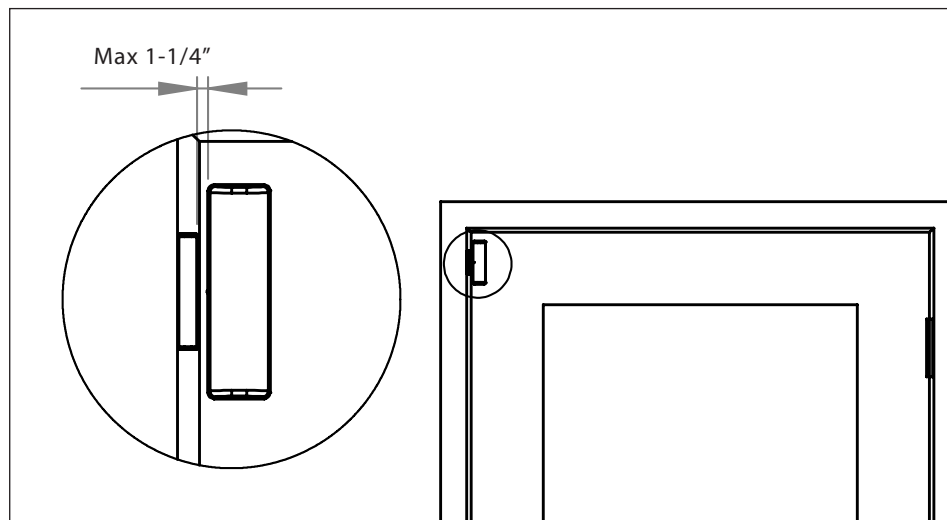

Figure 3 - Placing the Door/Window Sensor on the Door
- ✓ The Magnet Assembly and Sensor Assembly should be less than 1-1/4" apart when closed (Figure 3.)